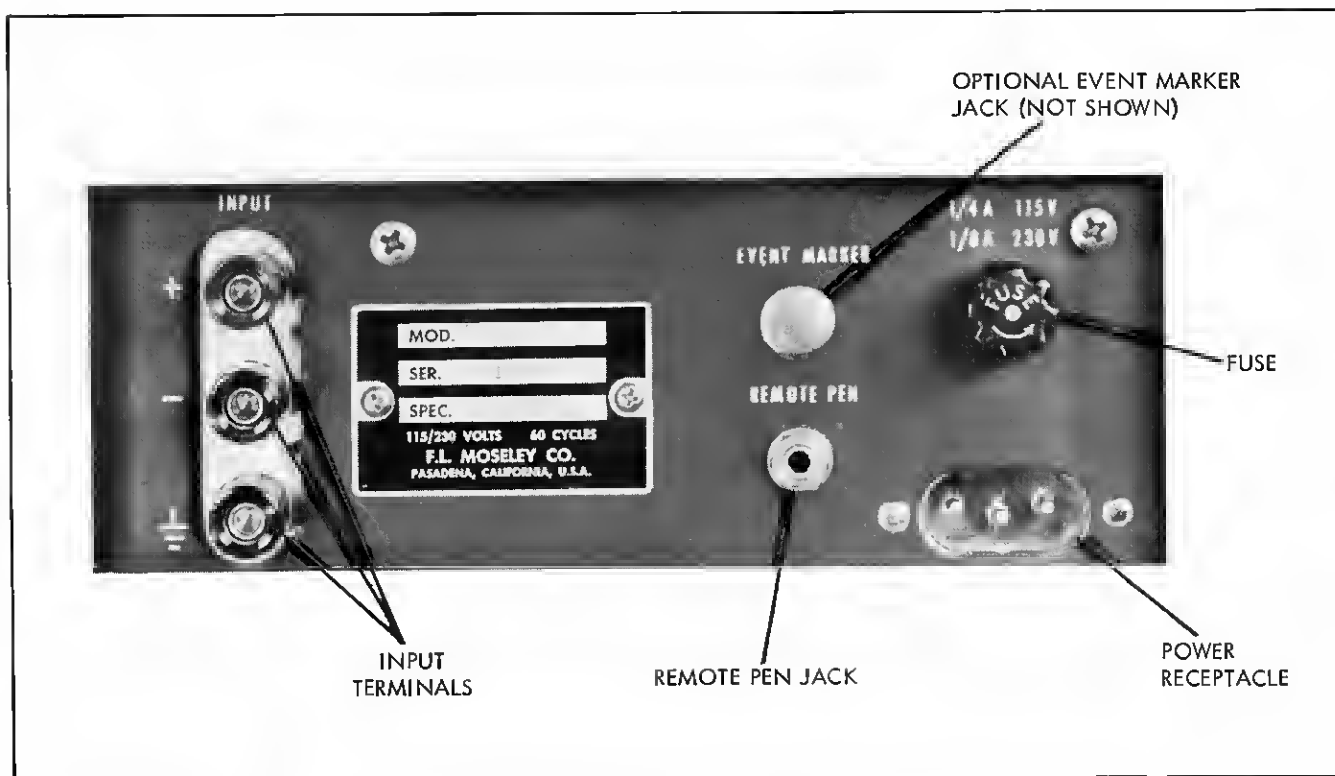

FIGURE 3-1. REAR PANEL
7. **INPUT RESISTANCE.** This may be checked at the input terminals with an ohm meter. A table of correct values is provided in Section III (figure 3-1).